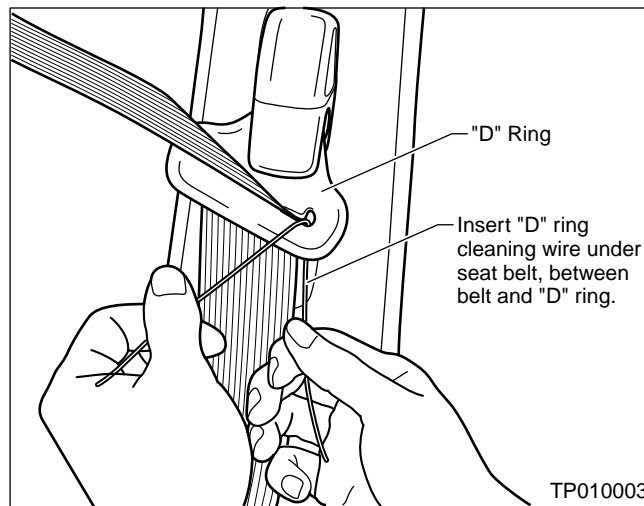

Figure 3
3. Insert the "D" ring cleaning wire (provided in the kit listed in the PARTS INFORMATION section of this bulletin) under the seat belt, between the belt and the "D" ring (see Figure 3).